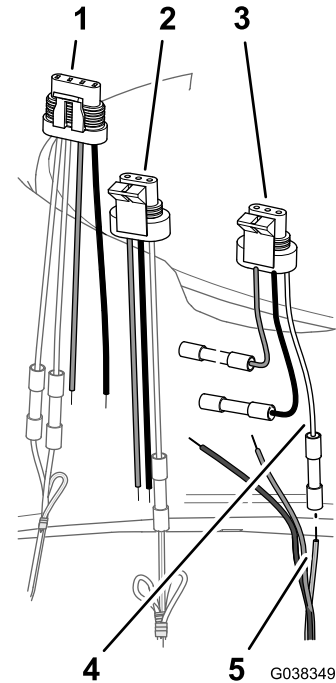

Figure 45
1. Insert the yellow and green wire of the DIN wire harness into the butt-splice connector on the white wire of the 3-pin adapter for the master-spray valve (Figure 45).